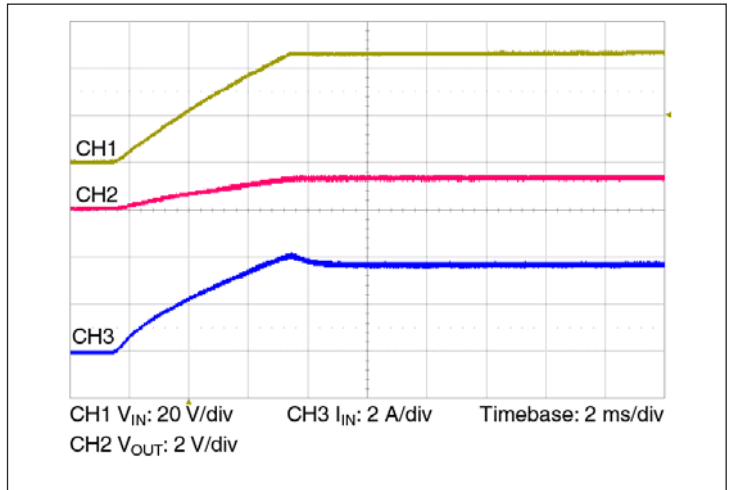

Figure 10 — Start up from application of  $V_{IN}$ ; VC pre-applied  $C_{OUT} = 64400 \mu F$
- Normal operation (VC applied prior to VIN): In this case the controller is active prior to ramping the input. When the input voltage is applied, the VTM module output voltage will track the input (See Figure 10). The inrush current is determined by the input voltage rate of rise and output capacitance. If the VC voltage is removed prior to the input reaching 26 V, the VTM may shut down.